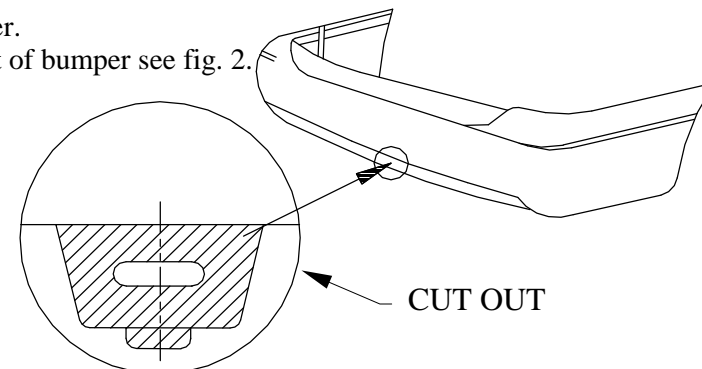

Fig. 2
1. Take spare wheel out – disassemble original spare wheel handle, replace them with handles from towbar accessories (pos. 6 and 7).
4. Cut out a fragment of bumper see fig. 2.